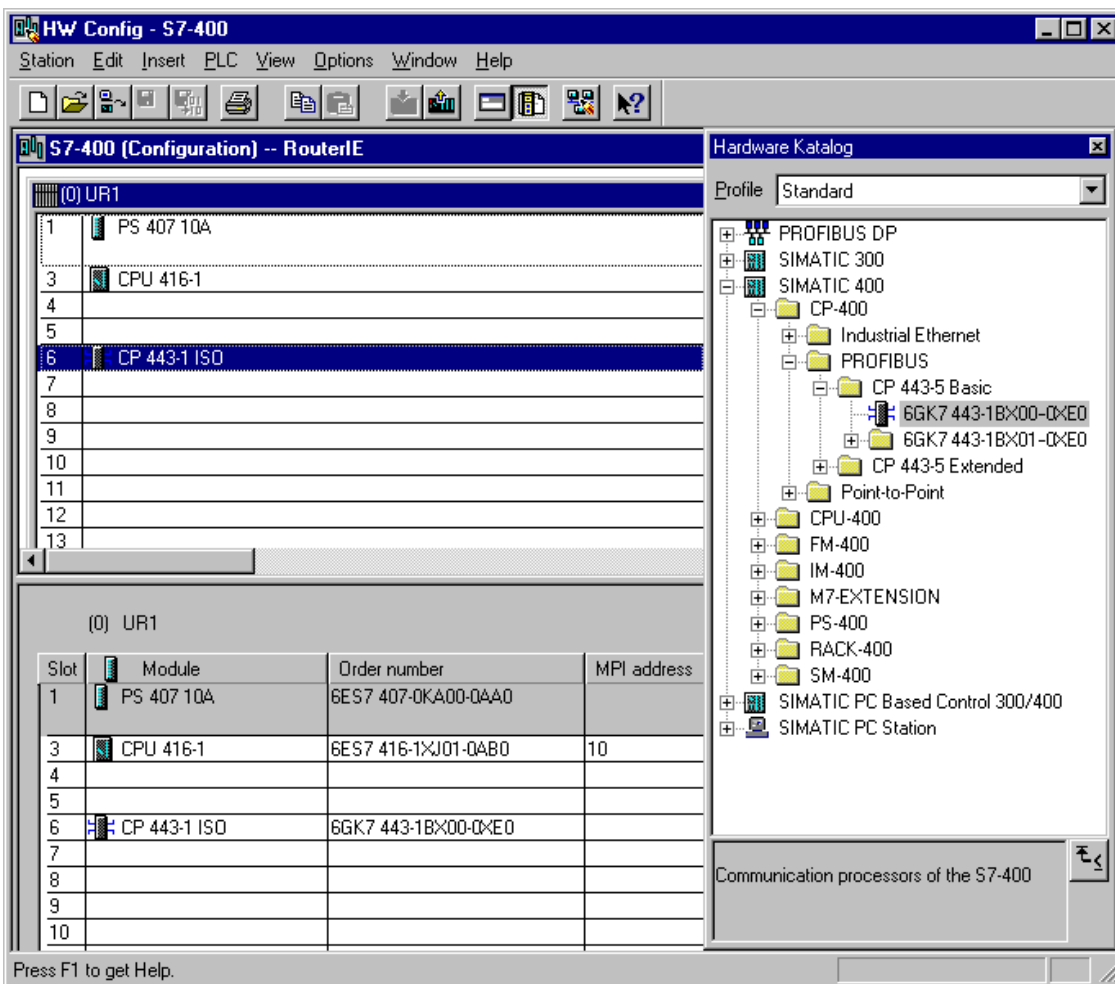

Figure 3-5 Configuring the Hardware of the S7-400 Station
1. Select the components listed below and configure them as shown in Figure 3-5.